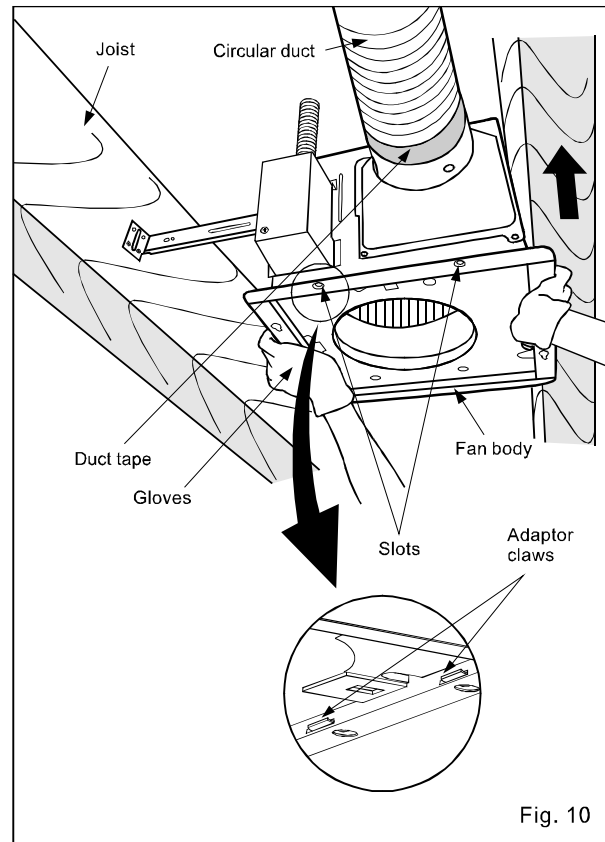

Fig. 10
- Insert the fan body into joists. (Fig. 10)
- Insert fan body (without blower section) into joists. (Fig. 10)